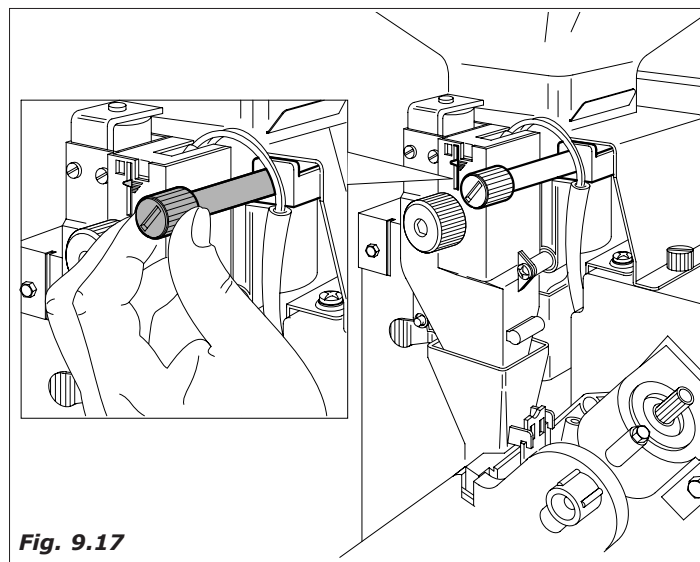

Fig. 9.17
- *Regulation of the degree of grinding.* Turn the screw (fig.9.17) to obtain the desired results.